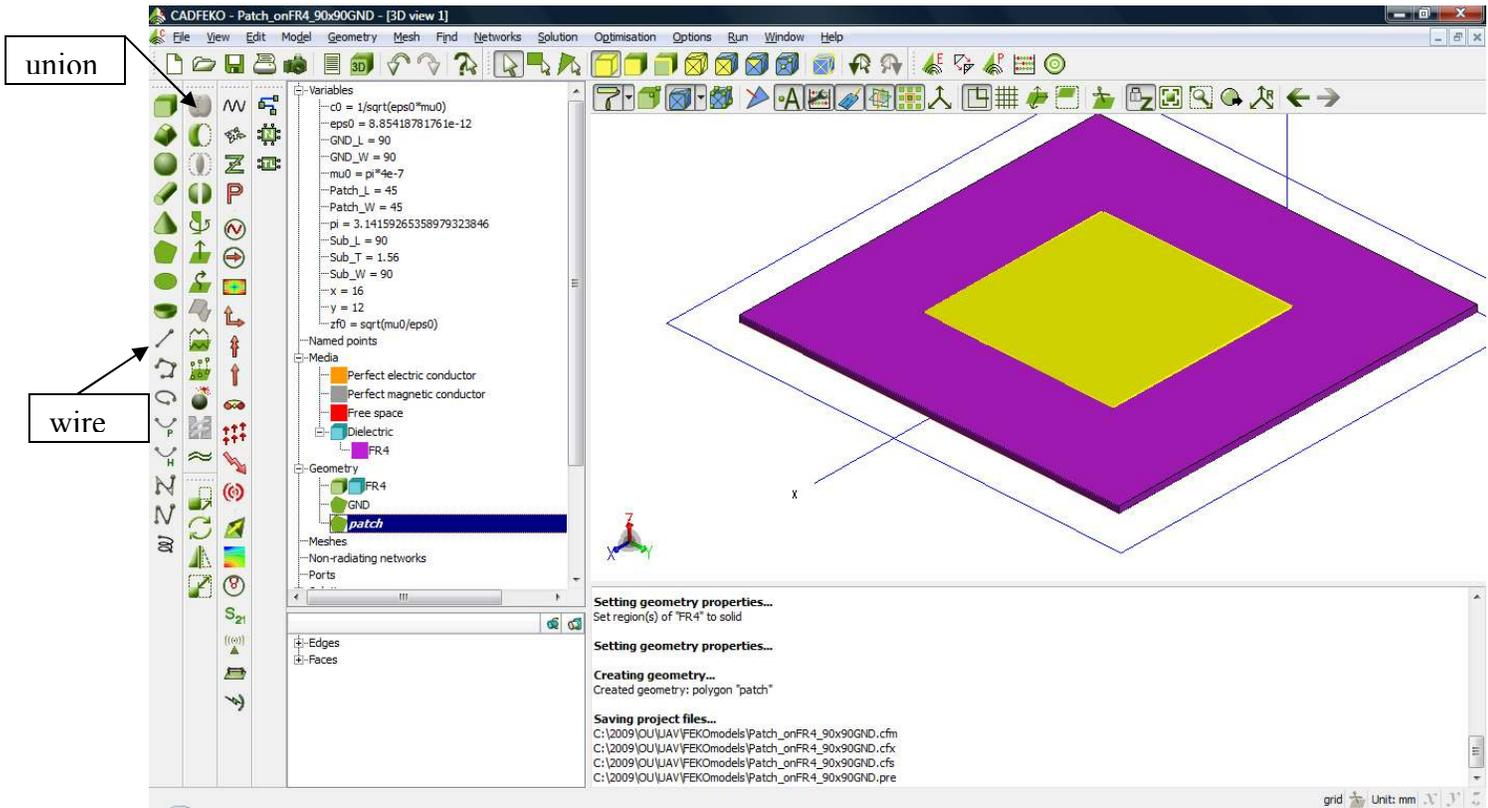

Figure 10.
12. The resulting geometry is shown in Figure 10.